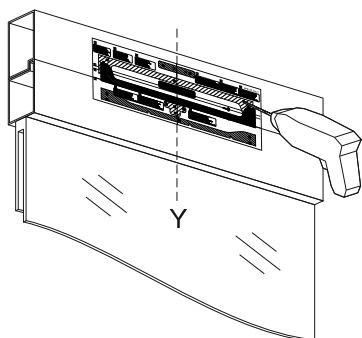

Fig. 24
- 5) **Fig. 24/25 -** With the suitable screws tighten the bracket for window frame connection and the bottom hung opening bracket;